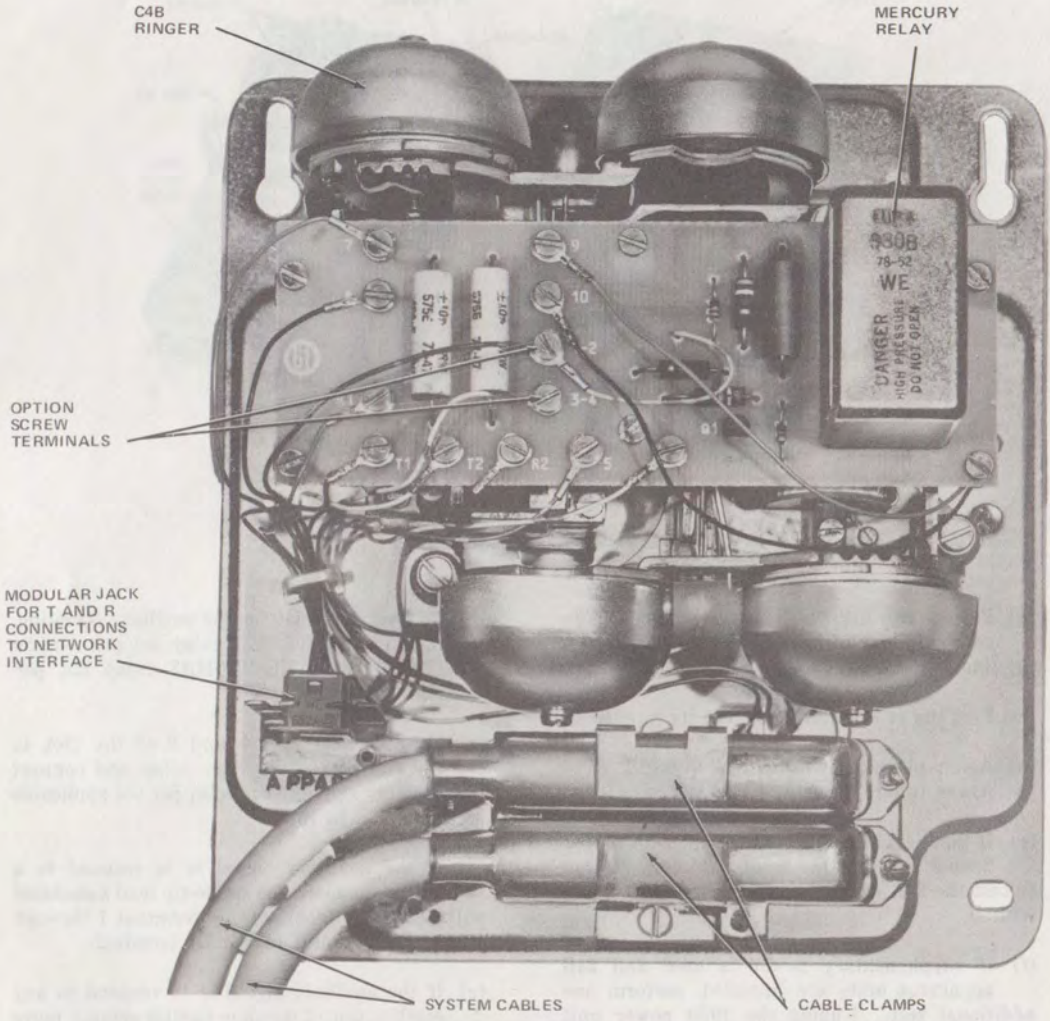

Fig. 32—24B Apparatus Unit
- (1) Connect the red and green leads of the 107A to A1 and A2, respectively.
- (2) Connect the yellow and brown leads of the 107A to a 2012D power transformer plugged into a suitable ac outlet.
3.46 Locate the 24B apparatus unit (Fig. 32) near the telephone where power failure ringing is required. Remove the cover and mount the base pan assembly on a vertical surface so that the mercury relay on the wiring board is in a